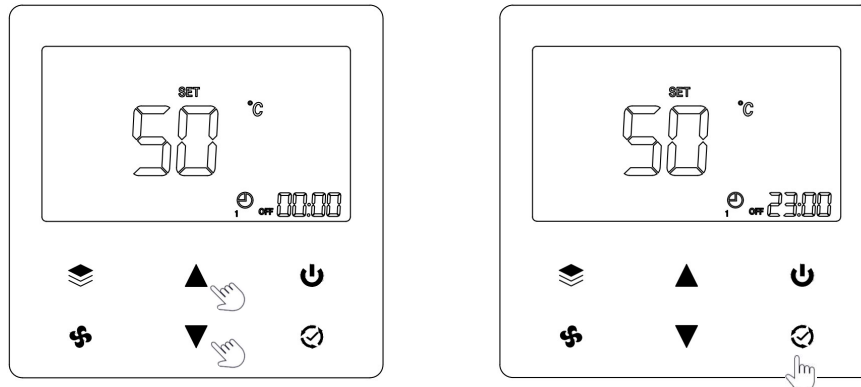

Figure 8. Setting of shutdown time for time period 1
5. After that, the interface will automatically jump to the shutdown time setting of period 1, and the shutdown time will blink (as shown on the left in Figure 8).
6. Under the setting state of regular shutdown time, press “▲” or “▼” to adjust the time, such as 23:00, then press “☑” to complete the setting of shutdown time in period 1 (as shown on the right in Figure 8). At this point, the timing setting of period 1 is completed.